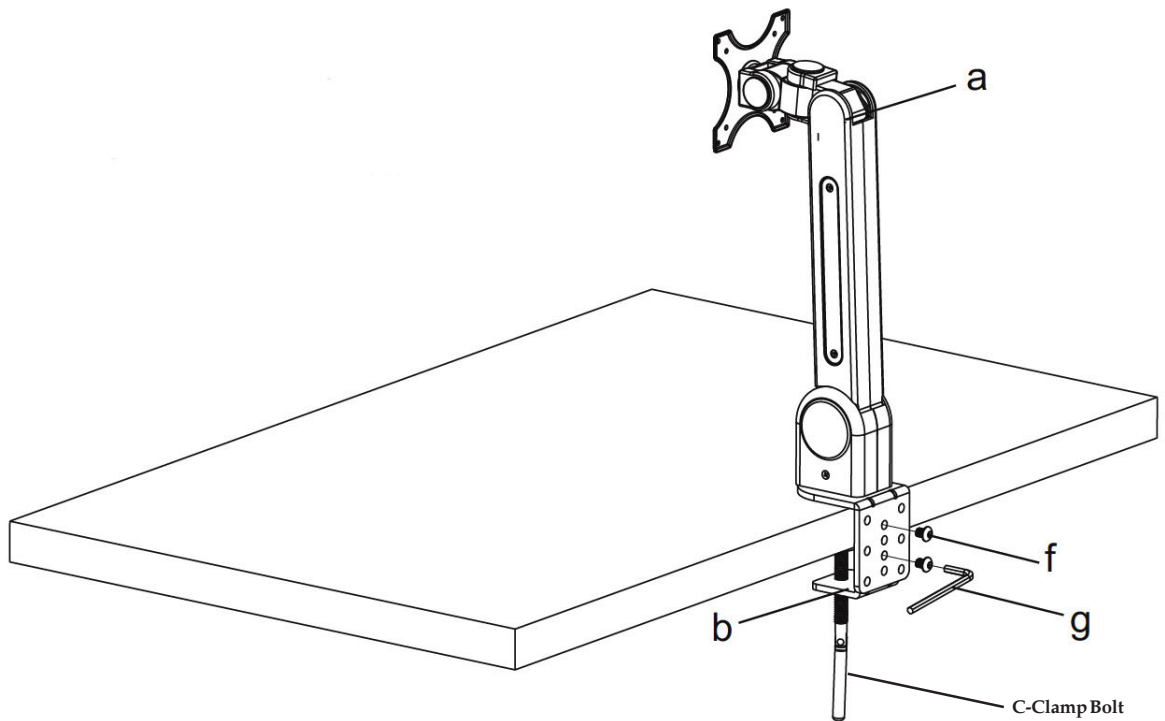

Figure 1
1. Position the Monitor Arm (a) onto the desktop. See Figure 1.
2. Install the C-Clamp (b) to the monitor arm according to the thickness of the desktop. The thickness can be changed in 2 positions. Connect it using 2 M8x12 Bolts (f), tighten using the provided Allen Key (g). See Figure 1.
3. Tighten the C-Clamp to the desktop by turning the **C-Clamp Bolt** counter clockwise. See Figure 1.